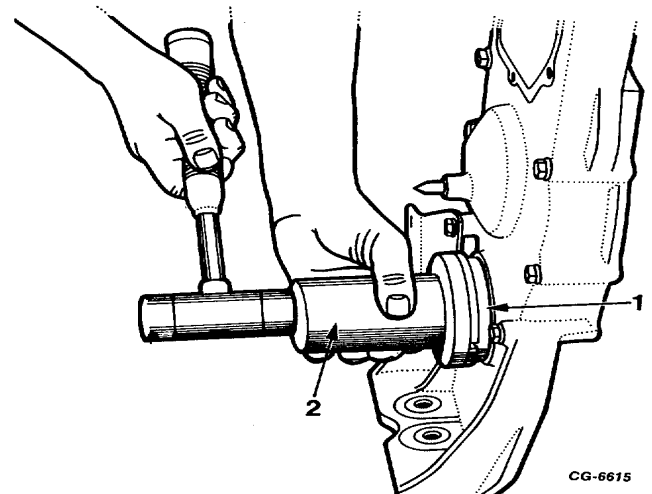

Fig. 153 Installing Engine Front Cover Oil Seal
- c. Place installer over end of crankshaft and drive seal into cover (Figure 153). Seal is properly located when inner shoulder on tool contacts machined surface of front cover.